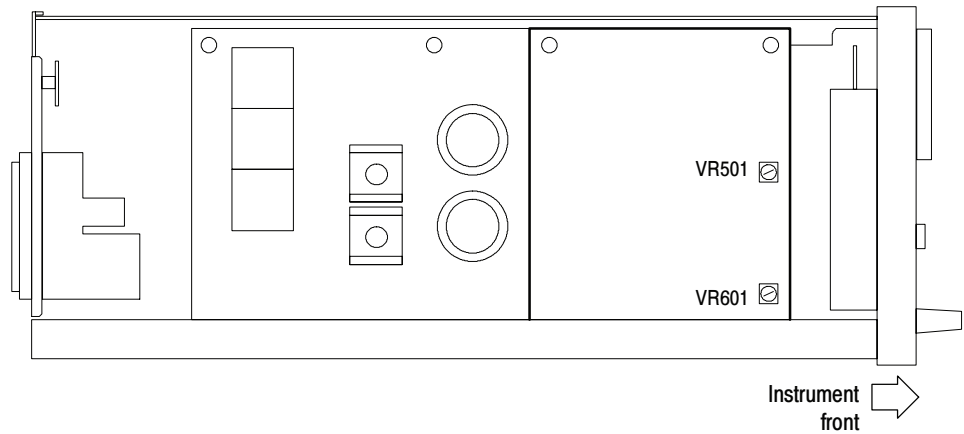

Figure 13: VR501, VR601 adjustment location
10. Adjust VR501 and VR601 to the settings listed in Table 11. (See Figure 13 for the adjustment locations.) Following the adjustment, enter the DVM reading on the power supply keypad and press (←).
cL11 Voltage Full Scale Calibration. To calibrate the full-scale voltage, adjust VR601, VR501, or VR401 using the instructions in Table 14. Refer to Figures 13 and 14 for the adjustment locations.